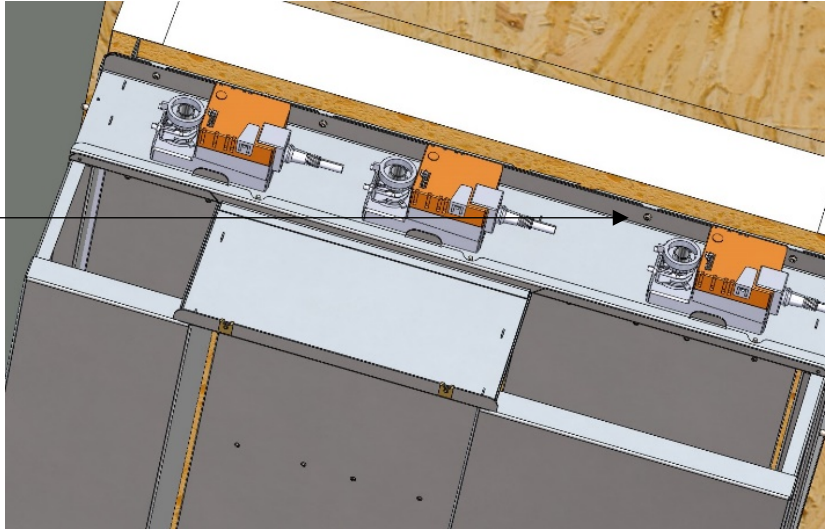

Figure 51 – Screw fixing locations for the internal diffuser.
4. Secure diffuser into place with the 8 pre-fitted screws on each long side of diffuser – *see figures 51 & 52.*